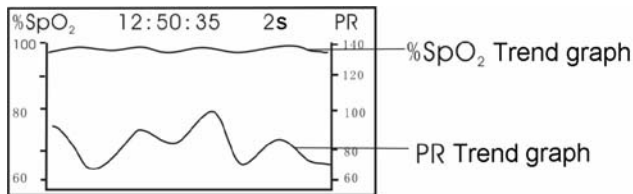
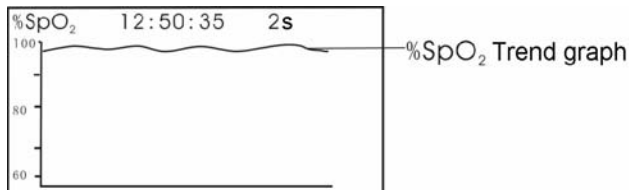
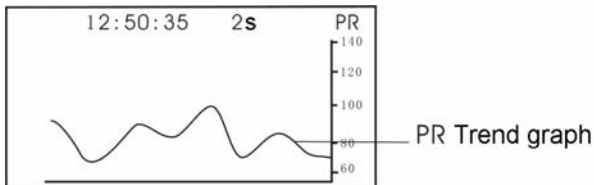

Figure 15A Trend Graph Recall Screen
Figure 15B Trend Graph Recall Screen
Figure 15C Trend Graph Recall Screen
Choose one record in the recall list, then press “” key, the display screen will display trend graph, as shown in Figure 15A.
- press “” key to shift trend recall screens (as shown in Figure 15A , Figure 15B and Figure 15C)